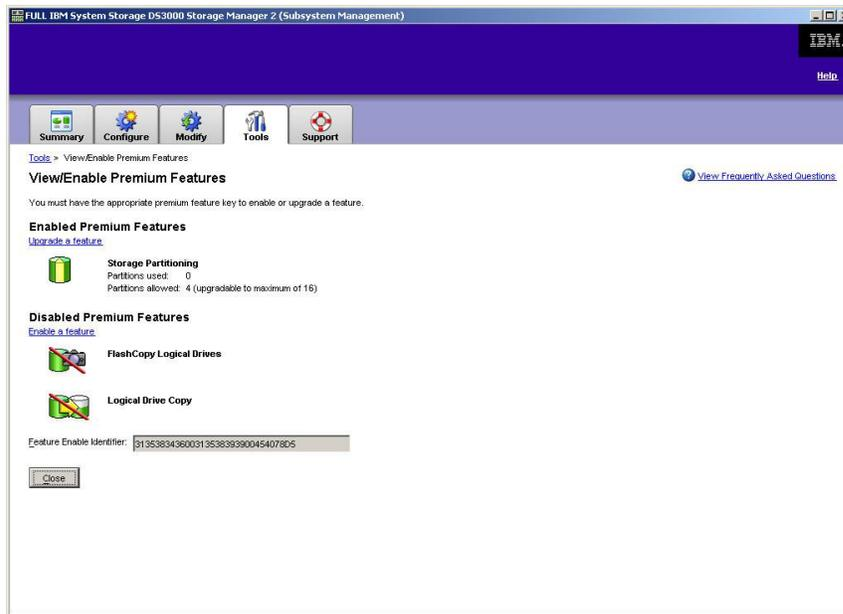

Figure 36. View/Enable Premium Features window
2. Under **Enabled Premium Features**, click **Upgrade a feature**, as shown in Figure 36 on page 102.
2. Under **Disabled Premium Features**, click **Enable a feature**, as shown in Figure 36. The Select Feature Key File window opens.